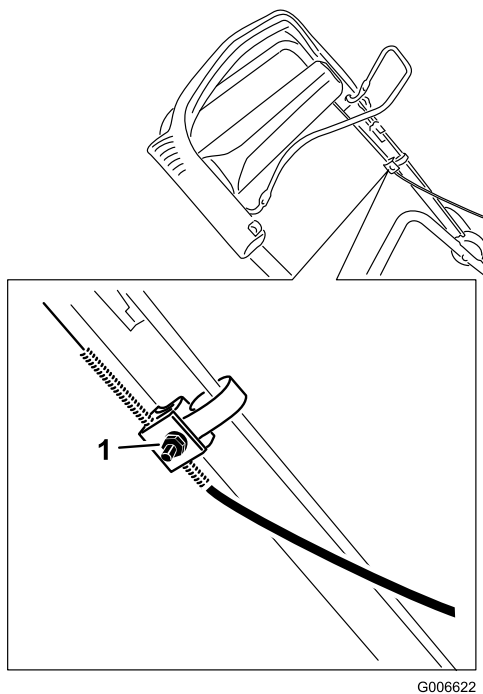

Figure 25
3. Loosen the nut on the cable mount (Figure 25).